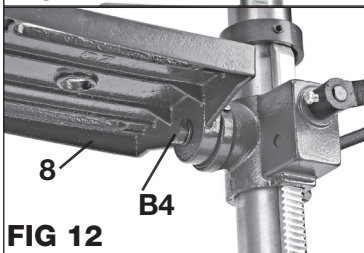

FIG 12
1. Install a 3" long drill bit into the chuck (4) and tighten.
2. Raise and lock the table (8) about 1" from the end of the drill bit.
4. If an adjustment is needed, loosen the bevel lock bolt (B4-FIG 12) with a wrench.
6. Tighten the bevel lock bolt (B4-FIG 12) when square.